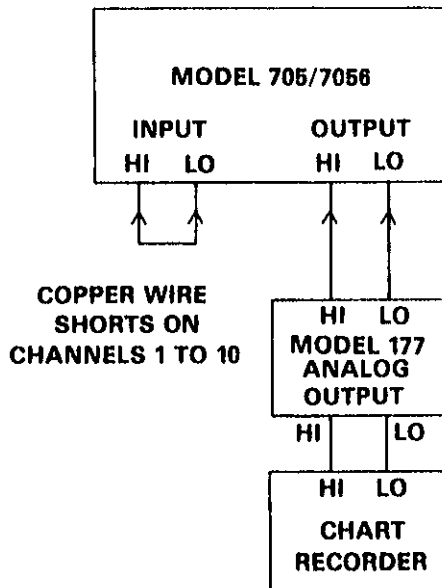

Figure 4. Model 7056 Thermal Offset Test In Model 705
- A. Figure 4 shows the test setup for the thermal offset test. The Model 177 should be set to DCV and the 20mV range. The Model 177 should be allowed to stabilize for two hours. During this time the analog output should be connected to the chart recorder and a recording made to establish a baseline for the voltage measurements.